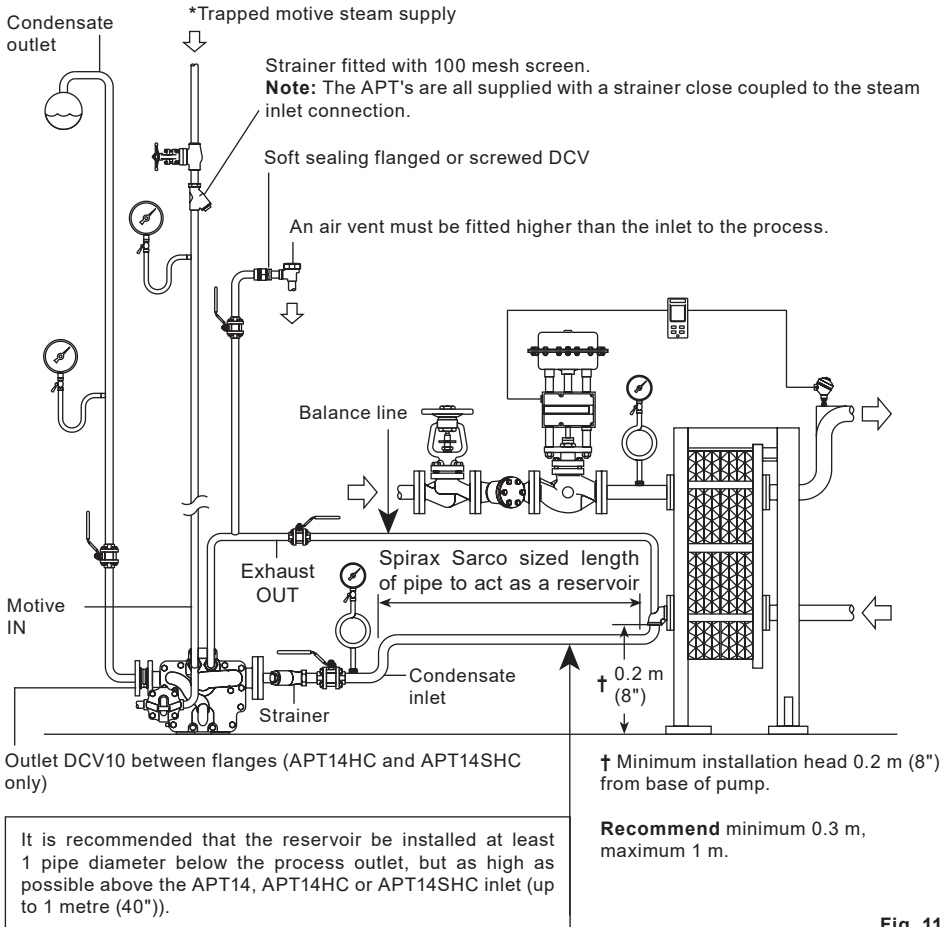

Fig. 11
The APT's have four connection ports. The DN40 (1½") - APT14 or DN50 (2") - APT14HC and APT14SHC port should be connected to the outlet of the equipment being drained. The DN25 (1") - APT14 or DN40 (1½") APT14HC and APT14SHC port should be connected to the condensate return line. Flow arrows indicate the correct direction of flow. The DN15 (½") port marked (S) should be connected to a trapped motive steam supply. *** It is important to ensure this line is drained of condensate at all times using a Spirax Sarco steam trap and filtered using a 100 mesh strainer as fitted (see Figure 11).** The screwed DN15 (½") port marked (E) should be balanced back as close as possible to the condensate outlet of the equipment. This balance line must always be connected to the top of the condensate pipe, as shown in Figure 11. **Note:** If a thermal cut out device has been installed to protect the heat exchanger from excess temperature, then it is important this is mounted upstream of the steam control valve and the take-off point for the motive steam supply to the APT14, APT14HC or APT14SHC.